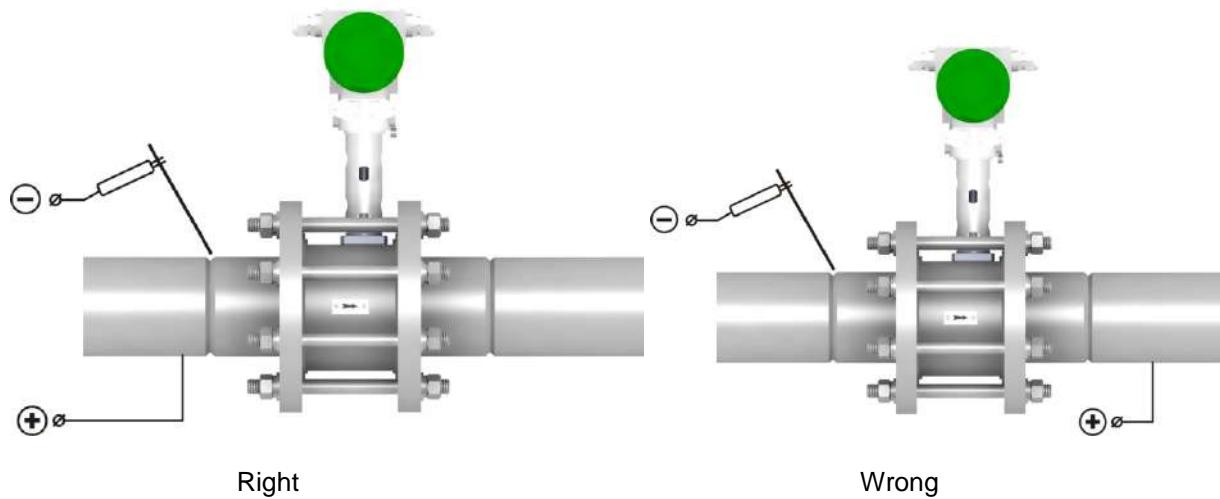

Figure 2.11 - Power supply connection for arc-welding
- for arc-welding power source is connected so that current does not flow through the flow meter - see fig.2.11.